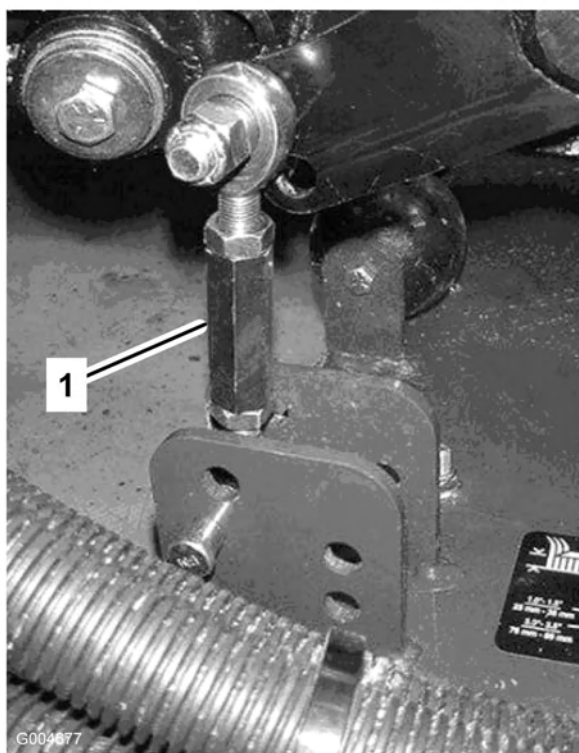
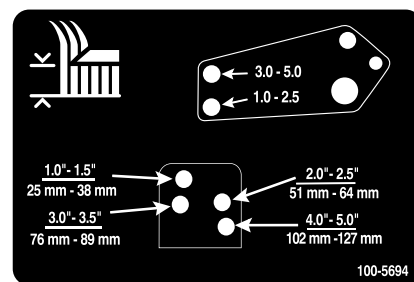

Figure 22
Figure 23
8. Remove the hairpin cotters and clevis pins securing the damper links to the cutting unit brackets (Figure 22). Align the damper link holes with the selected height-of-cut bracket holes in the cutting unit frame (Figure 23), insert the clevis pins, and install the hairpin cotters.